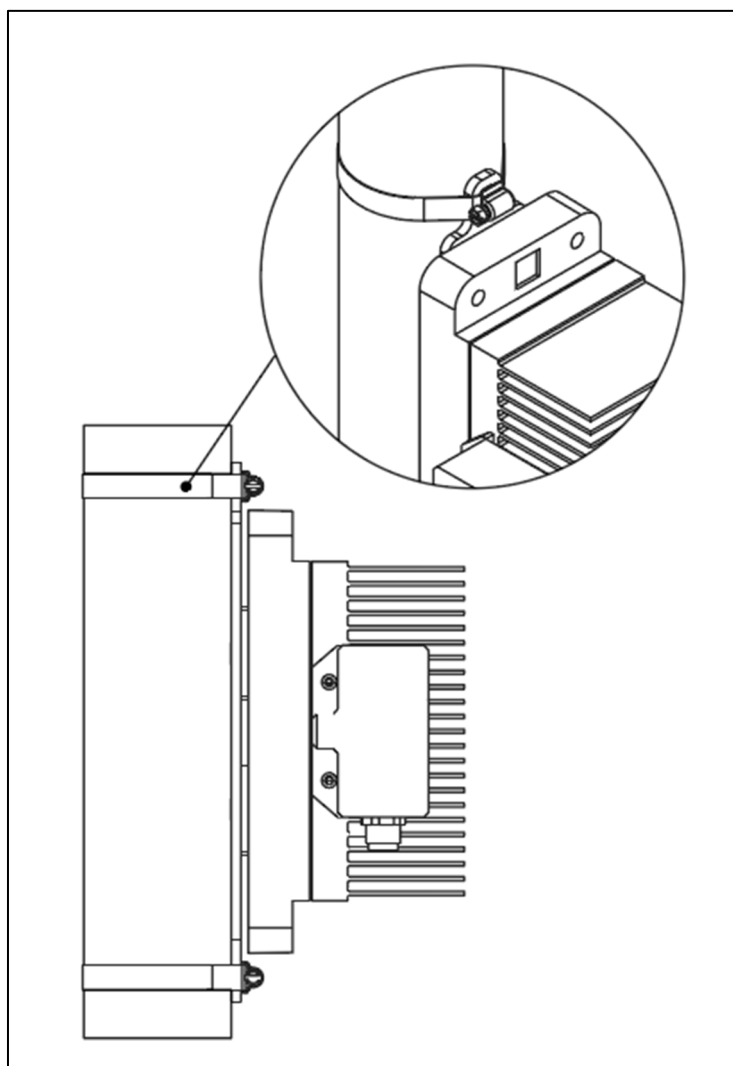

Figure 9.- IET Cylindrical mounting option with a metal clamp
2. For the installation on a circular surface, it is necessary to use a metal clamp that fits the mounting pipe as shown in Figure 9.
4. Insert the screws or metal clamps on the top and lower tabs, as shown on Figures 9 and 10, and tighten them until the module is properly fixed.